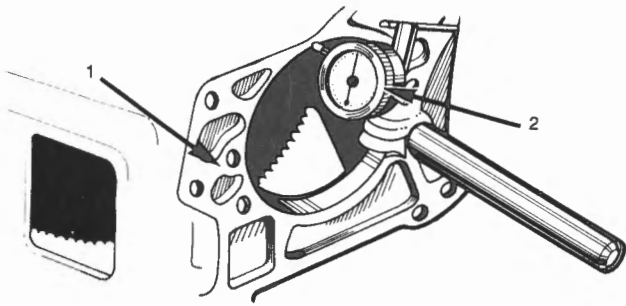

Fig. K-1
- (i) Mount the dial indicator pilot into the end of the crankshaft, and attach the dial indicator, adjusting it until the button will contact a circumference just inside of the transmission mounting bolt holes. Fig. K-1.